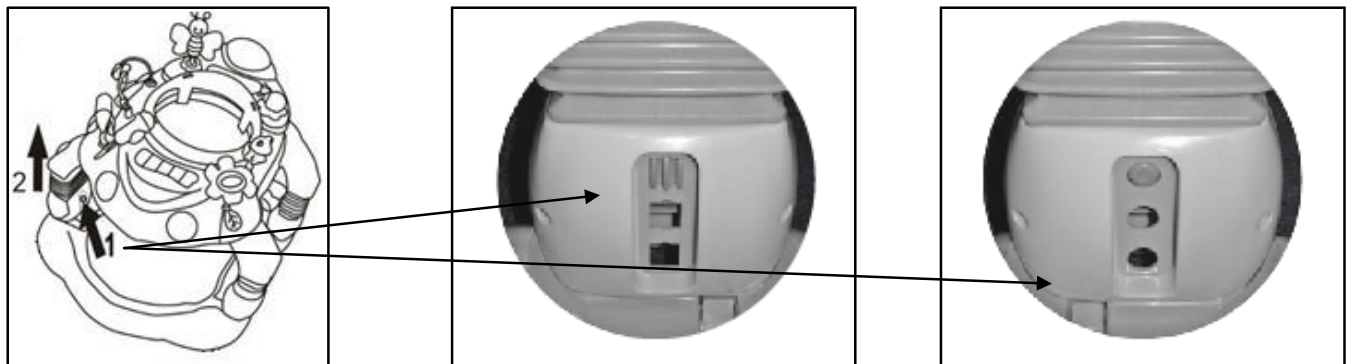

Figure 15
- Press leg button located on each leg, as per **Figure 15 (1)**.
- Raise or lower the leg to the desired position, as per **Figure 15 (2)**.